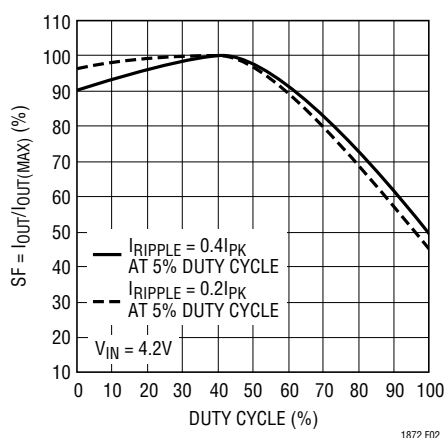

Figure 2. Maximum Output Current vs Duty Cycle
**Note 6:** Guaranteed by design at duty cycle = 30%. Peak current sense voltage is  $V_{REF}/6.67$  at duty cycle <40%, and decreases as duty cycle increases due to slope compensation as shown in Figure 2.
when the LTC1872 is operating below 40% duty cycle. However, once the duty cycle exceeds 40%, slope compensation begins and effectively reduces the peak inductor current. The amount of reduction is given by the curves in Figure 2.
However, for operation that is above 40% duty cycle, slope compensation's effect has to be taken into consideration to select the appropriate value to provide the required amount of current. Using the scaling factor (SF, in %) in Figure 2, the value of RSENSE is: